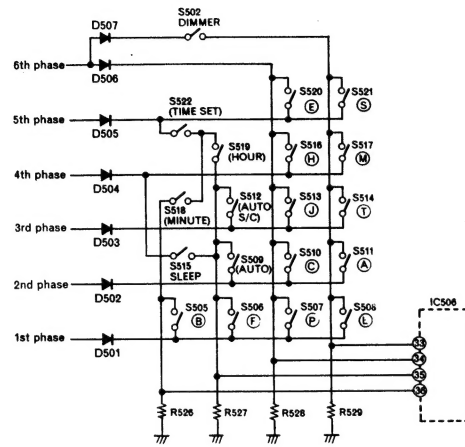

Fig. 10
The pushbutton switch is designed to operate the matrix circuit which performs detection depending on what phase of the 6-phase signal generated by IC505 is input to which of the 4 input terminals. That is to say, the operation buttons as shown in Fig. 10 are connected so as to short-circuit one 6-phase signal and one of terminals (33) – (36). (For example, when button (B) of the world clock is pressed, the 1st phase of the 6-phase signal is input to terminal (36) of IC6.) When more than 2 operation buttons are pressed, the first pressed has priority; when more than 2 buttons are pressed simultaneously, no operation takes place. A program is provided to prevent mis-operation because of chattering or noise. The dimmer switch is assumed to be ON when the 6th phase signal is input to terminals (33) and (34) simultaneously. Other matrix switch signals than the dimmer switch accept the operational input only when the dimmer display is in the clock display mode. Because of this, the display does not change when these buttons are pressed in the frequency display mode.
A program to determine the output of the matrix switch circuit runs when this unit is set to the clock display mode. When the auto button (S512) as shown in Fig. 10 is pressed, the 3rd phase signal is input to terminal (35) of IC506 and the display indicates the auto-set time.
When this unit is set to the CLOCK display mode, the program to determine the output of the matrix switch circuit owns. When the Sleep button (S515) as shown in Fig.10 is pressed, the 4th phase signal is input to terminal (35) and the Sleep function is set for 60 minutes. At the same time, the Auto-Sleep indicator flashes every 2 seconds to show that the Sleep function is in operation. 1/16 sec is deducted from the internal 60 minute timer every time the time is updated by 1/16 sec, and when the timer reaches "0", the Auto/Sleep output is set to L level. The Sleep function is cancelled when the Sleep button is pressed during Sleep setting. When Sleep is set during Auto-On, since Sleep takes precedence, Auto-On is automatically cancelled, sound is output for 60 minutes starting at the time sleep is set. However, it is not cancelled during Auto-setting (when the Auto-On time is set to the time after Sleep operation is completed).